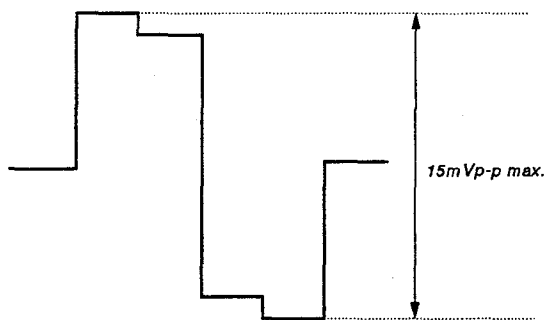

Fig. 11
5. Adjust SUB PHASE to minimize the output waveform (15 mVp-p max.) (Fig. 11)
4. Adjust SUB PHASE to minimize the output waveform (15 mVp-p max.) (Fig. 11)